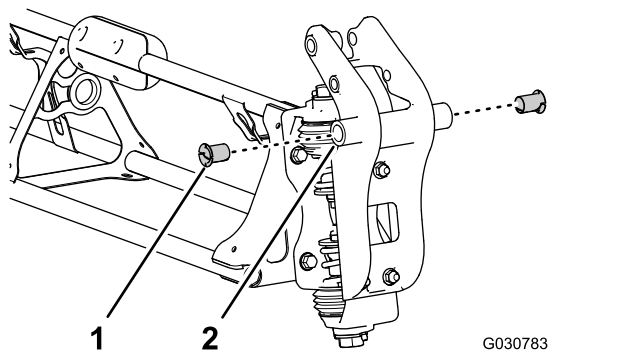

Figure 121
2. Insert a nylon-flange bushing into the 31.8 mm (1-1/4 inches) hole at each side of the pivot fitting (Figure 121).